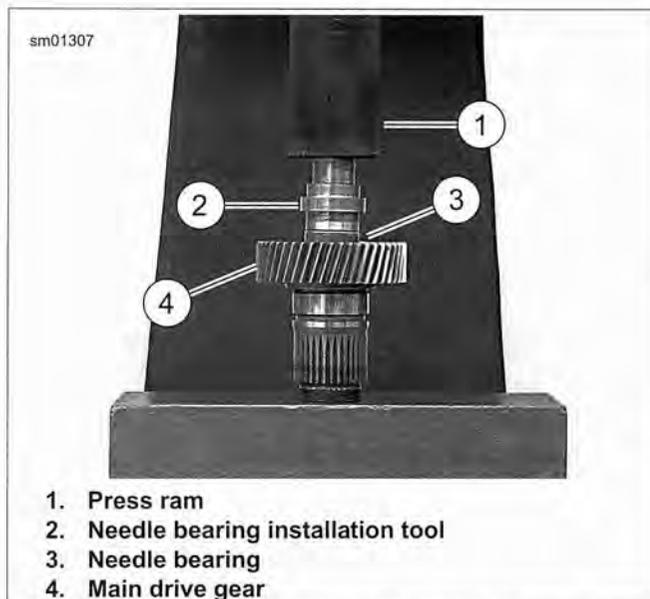
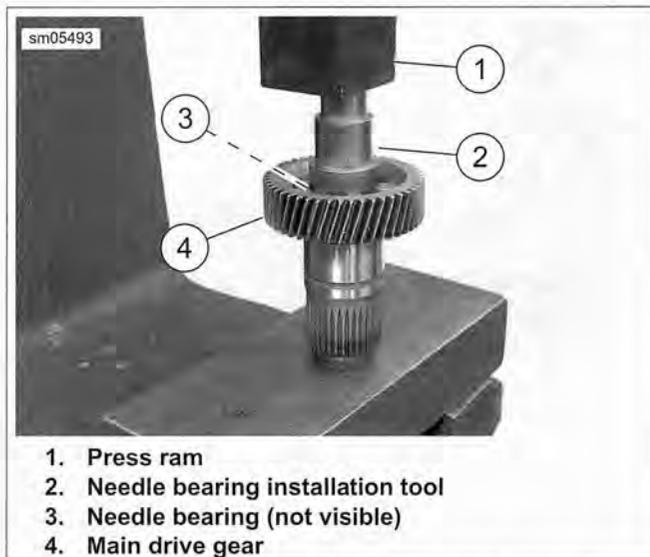

Figure 5-70. Pressing Inner Needle Bearing Assembly into Main Drive Gear: XL Models
Figure 5-71. Pressing Inner Needle Bearing Assembly into Main Drive Gear: XR 1200X
1. See Figure 5-70 or Figure 5-71. Place main drive gear (4) on press bed with gear end facing up.
2. Place needle bearing (3) squarely into end of drive gear with lettered side of bearing facing up. Always press on lettered side of bearing to install. Insert the appropriate